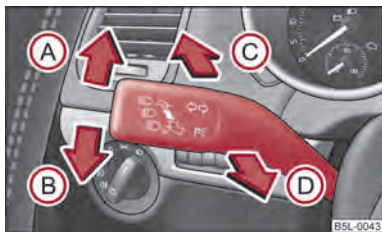

Fig. 30 Turn signal and main beam lever
- Push the lever upwards (A) or downwards ⇒ fig. 30 (B).